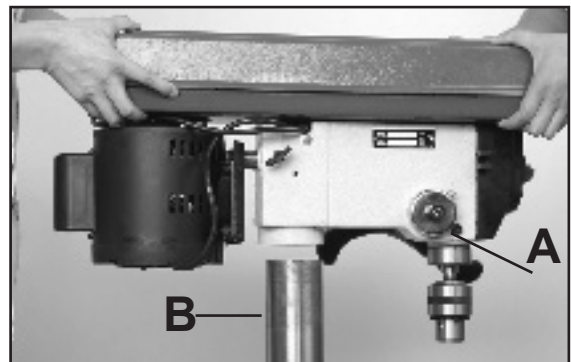

Figure 5
1. Place the drill press head (A-Fig. 5) onto the column (B-Fig. 5) as far as it will go.